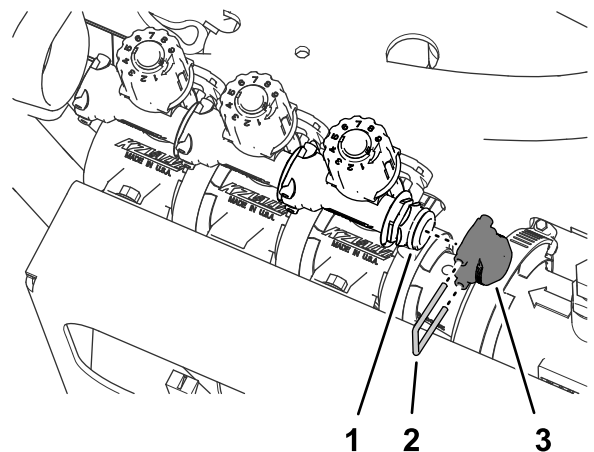

Figure 65
3. Remove the retainer that secures the cap to the quick disconnect fitting of the bypass valve, and remove the cap (Figure 65).